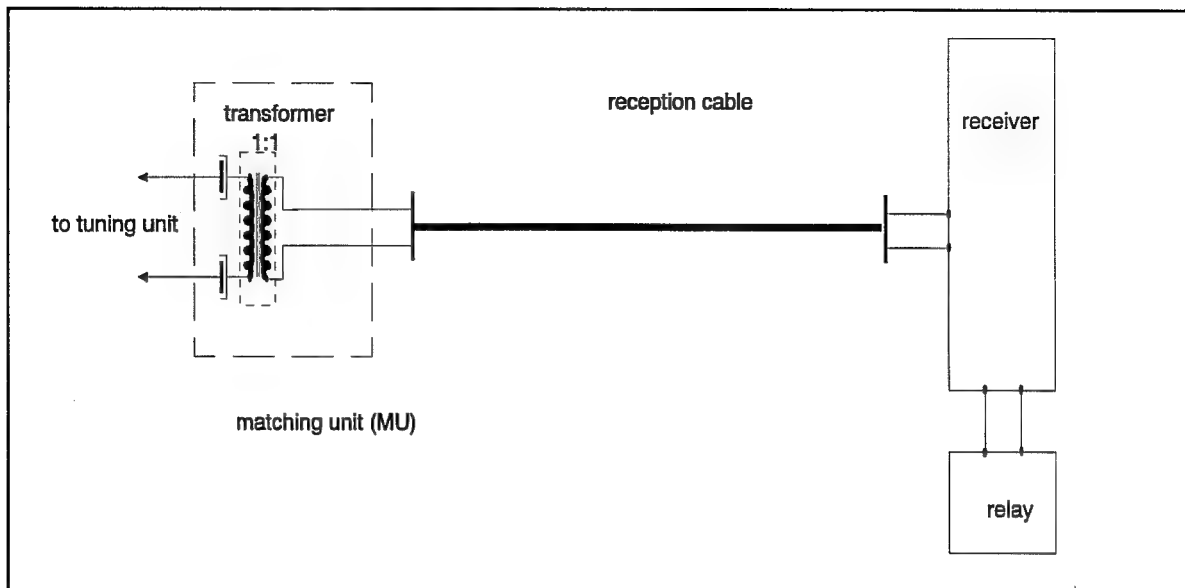

Figure 19 - reception line
4.7.1.2 Adaptation of the reception line (fig.19)